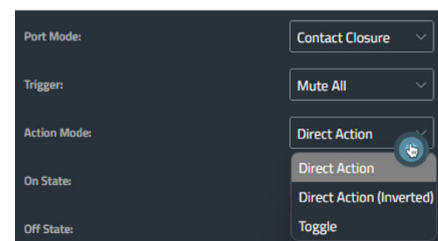

Figure 59: Contact Closure – Action Mode
- There are 3 types of action mode available, see **Figure 59**.